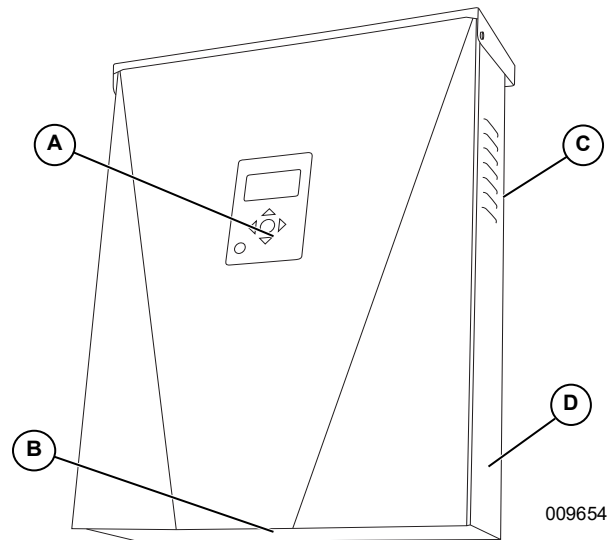

Figure 2-2. Component Locations
Refer to Figure 2-2 to locate unit serial number (D). Record the information from the product nameplate in Table 1: PWRcell Inverter Important Information on the inside front cover of this manual.